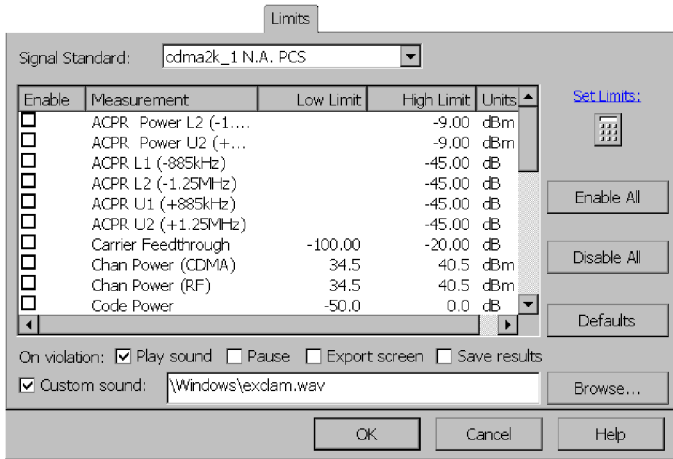

Figure 3-69: Enabling limit testing
2. Tap the **Limits** tab. See Figure 3-69.